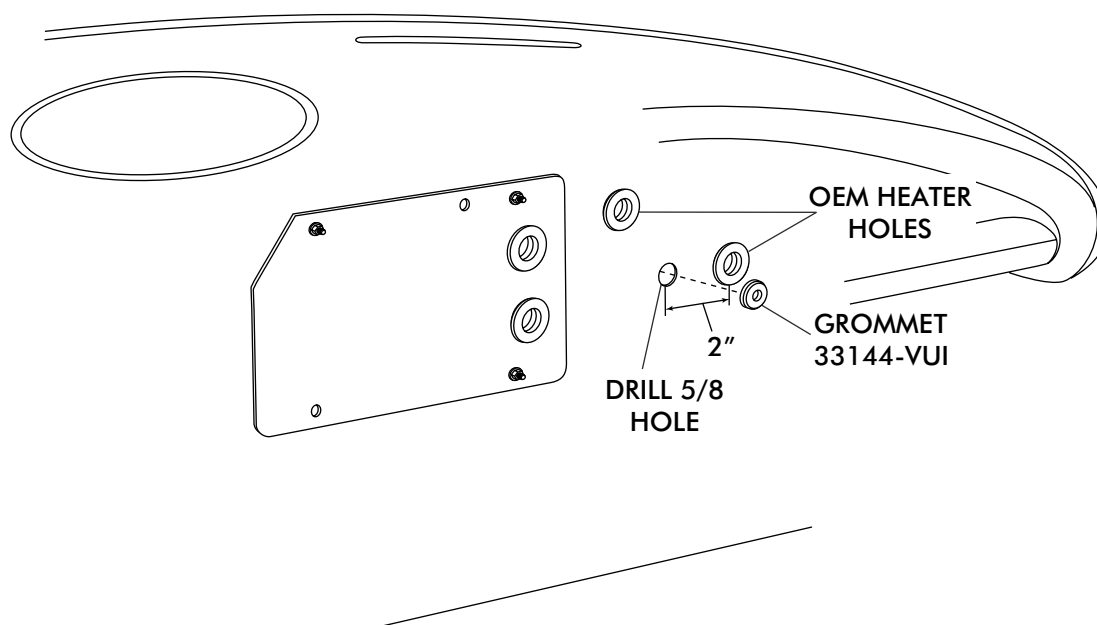

FIGURE 13
- ☐ ROUTE A/C WIRES THROUGH 3/8 GROMMET AS SHOWN ON FIGURE 13 (12 VOLT/ GROUND/ BINARY SWITCH/ HEATER VALVE).